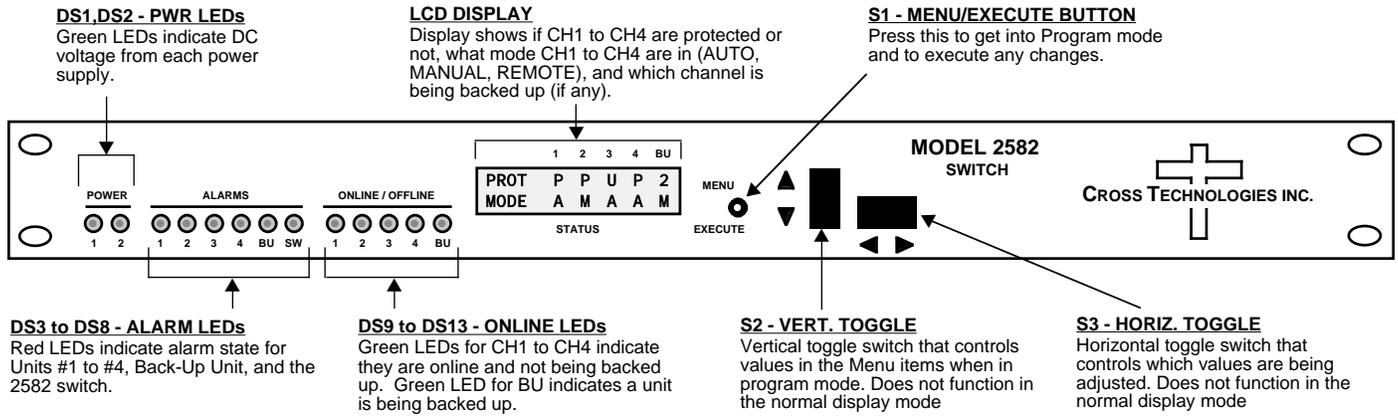

FIGURE 2.2 2582-144 Front Panel Controls and Indicators
Figure 2.2 shows the front panel controls and indicators.
5. Be sure DS1 & DS2 (green, DC Power) are on and DS3 to DS8 (red, Alarm) are off (Figure 2.2).
Alarm indications appear on the LEDs (see figure 2.2).